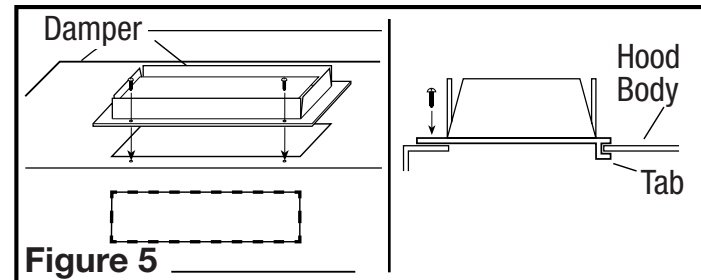

Figure 5
- Install the damper assembly to the hood by sliding the tabbed section of the damper under the hood body and securing with the two provided screws. Using approved duct tape, tape around the collar to seal off any air leaks (**Figure 5**).